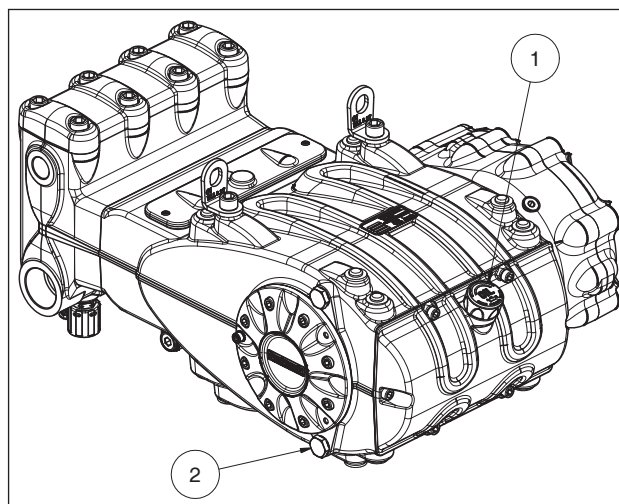

Fig. 3
Check the oil level via the plug with the oil dipstick that has minimum and maximum marks ①, Fig. 3. Top up to restore the level if necessary.
The oil should be changed with the pump at working temperature by removing the plug pos. ②, Fig. 3.
Use a temperature probe to be inserted into the oil drain plug pos. ② Fig. 3. See "ATEX EXPLOSION PROTECTION" manual.